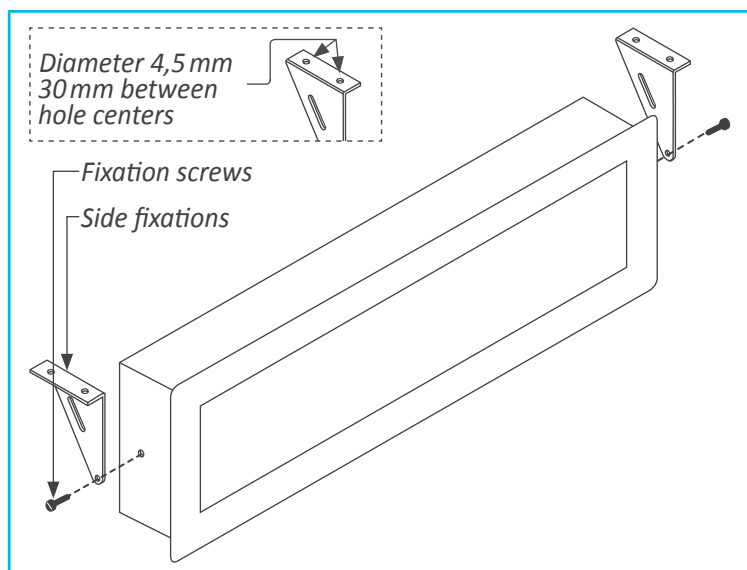

Figure 11 - Hanging mount
- Hanging mount. Mount the side fixations as shown (see Figure 11). Each fixation has 2 holes with 4.5 mm diameter and a separation between hole centers of 30 mm. Instrument can be hanged using cable, threaded rod, ....